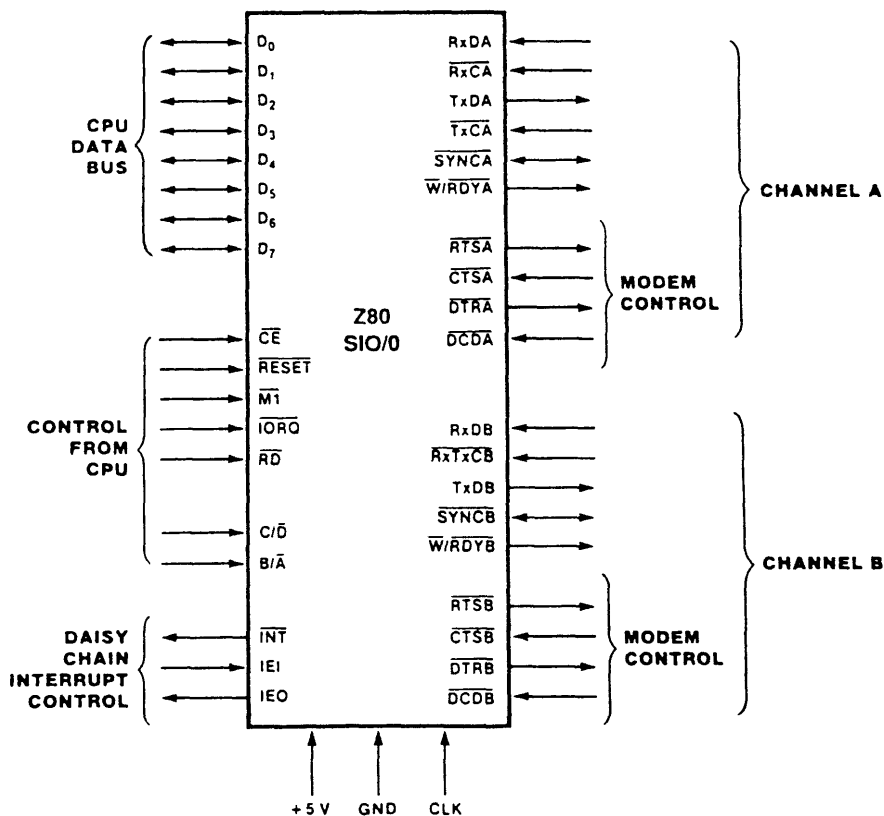

Figure 5. Pin Functions
**Asynchronous Modes.** Transmission and reception can be done independently on each channel with five to eight bits per character, plus optional even or odd parity. The transmitters can supply one, one-and-a-half, or two stop bits per character and can provide a break output at any time. The receiver break-detection logic interrupts the CPU both at the start and end of a received break. Reception is protected from spikes by a transient spike-rejection mechanism that checks the signal one-half a bit time after a Low level is detected on the receive data input (RxDA or RxDB in Figure 5). If the Low does not persist, as in the case of a transient, the character assembly process is not started.